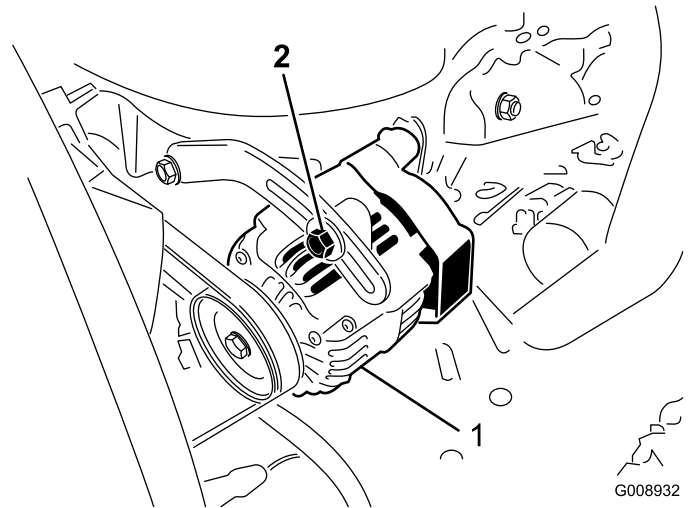

Figure 77
Check the condition and tension of the belts (Figure 77) after every 100 operating hours.
2. If the deflection is not 10 mm (3/8 inch), loosen the alternator mounting bolts (Figure 77). Increase or decrease the alternator belt tension and tighten the bolts. Check the deflection of the belt again to ensure that the tension is correct.